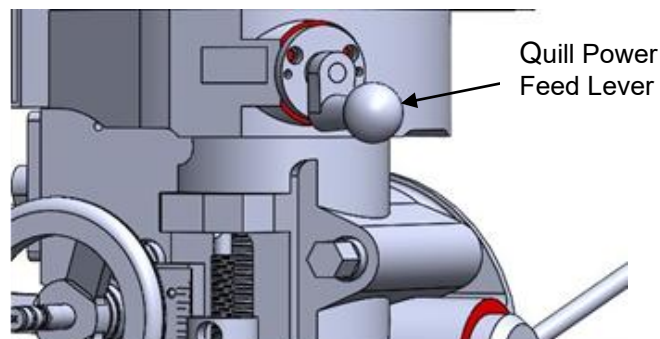

Figure 3
- **Location** – The quill power feed lever is located on the right side of the mill head (Figure 3).